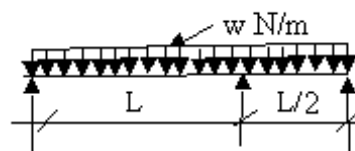

Figure 18:
- (b) Calculate the reactions at the three supports of a continuous beam using Castiglianos theorem. Shown in Figure 18. [6+10]